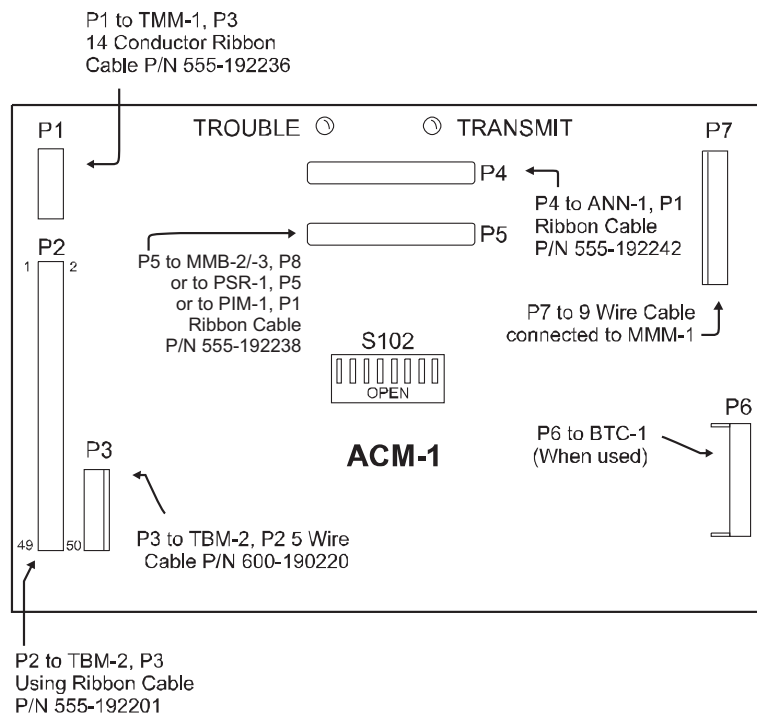

Figure 4
The ACM-1 can be wired in two different configurations: One wiring configuration is used if an MMB (or PSR) supplies the power and data communications (See Figure 4).
1. To wire the ACM-1 in an enclosure that has an MMB or a PSR (Refer to Figure 4):